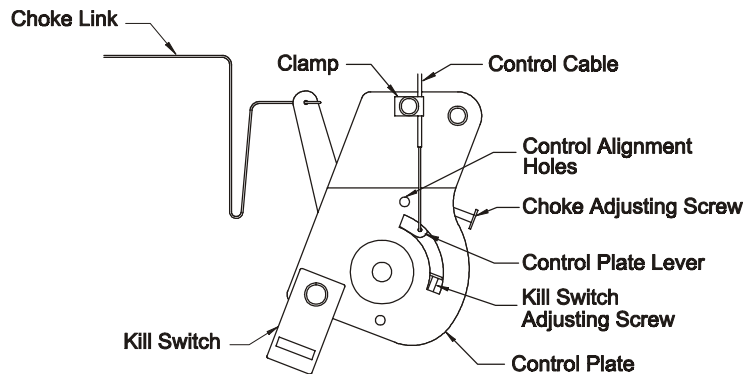

FIG 2
- Loosen clamp on engine control plate (See Figures 2, 3 & 4). Attach inner wire of the throttle cable to the control plate lever and position cable clamp, **do not** tighten clamp.